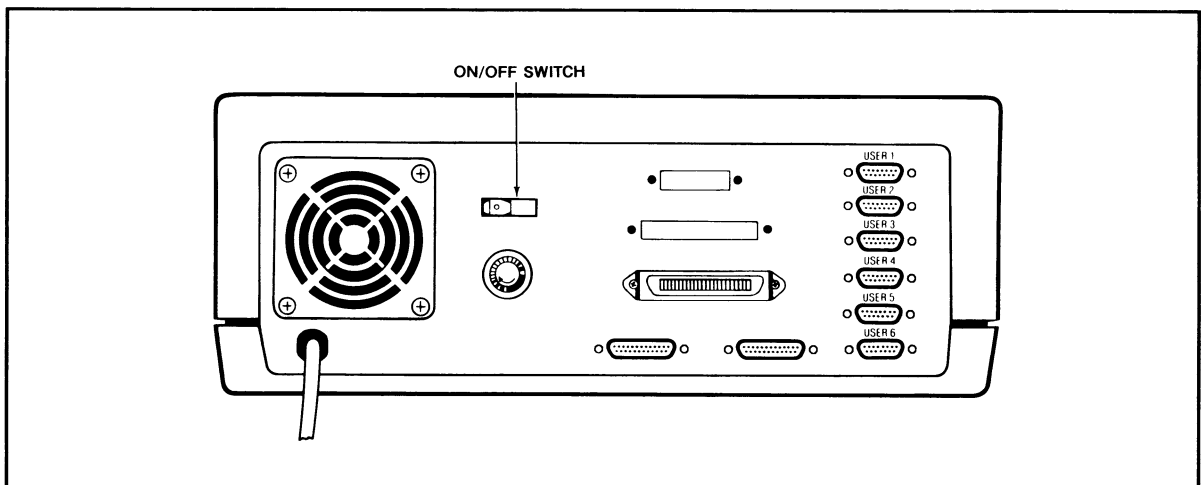

Figure 3-1 On/Off Switch on Rear Panel
2. Locate the ON/OFF switch on the left-center side of the rear panel of the TS 806/20. (Figure 3-1). This is a rocker-type switch.